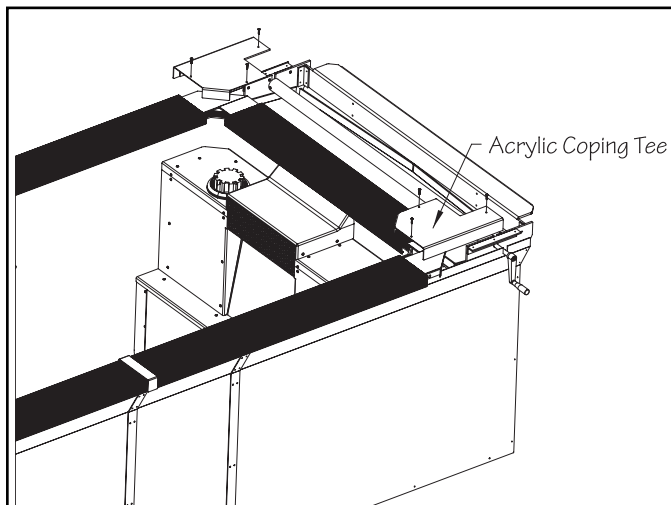

Fig. 73
**At the front of the pool, apply silicone to the ends of each coping section to seal the gap between the coping and top flange.** Position each tee section in the front corners of the pool. Once again, use the provided 11/64" (4mm) drill bit to drill through the aluminum coping into the top flange of the pool using the pre-drilled holes in the tee section as a template. Use the 3/4" (19mm) truss head screws located in the coping corner hardware bag to secure each tee section. Fig. 73.